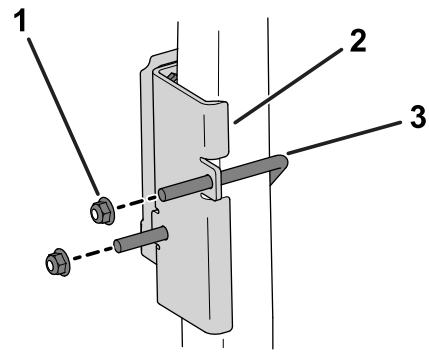

Figure 6
2. Use a U-bolt and 2 flange nuts (3/8 inch) to secure the device bracket to the area above the manual tube on the roll bar (Figure 6).